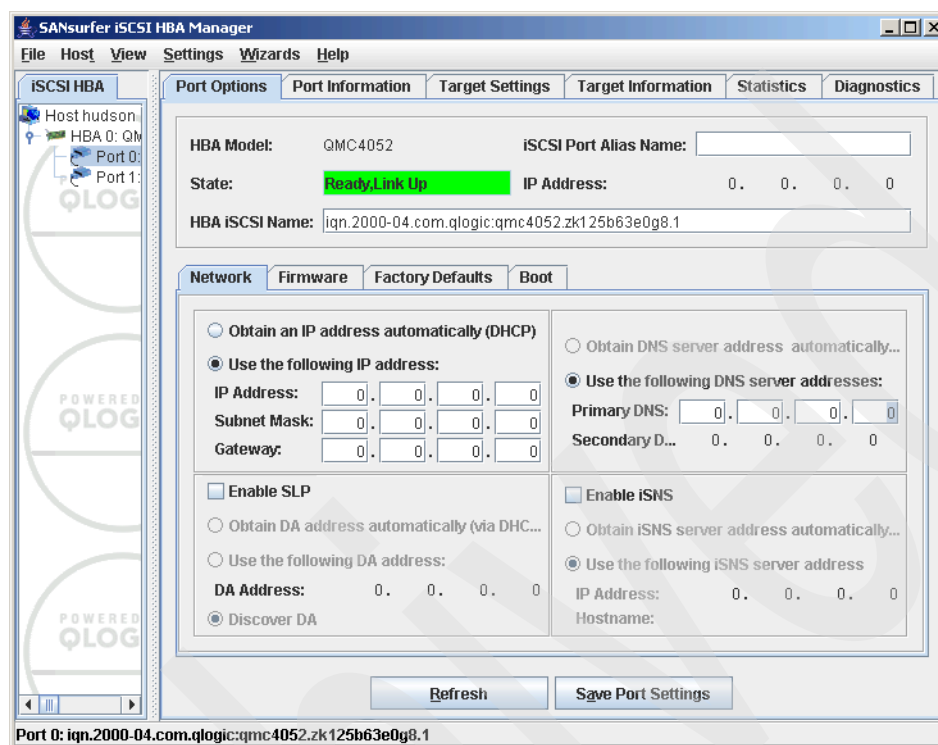
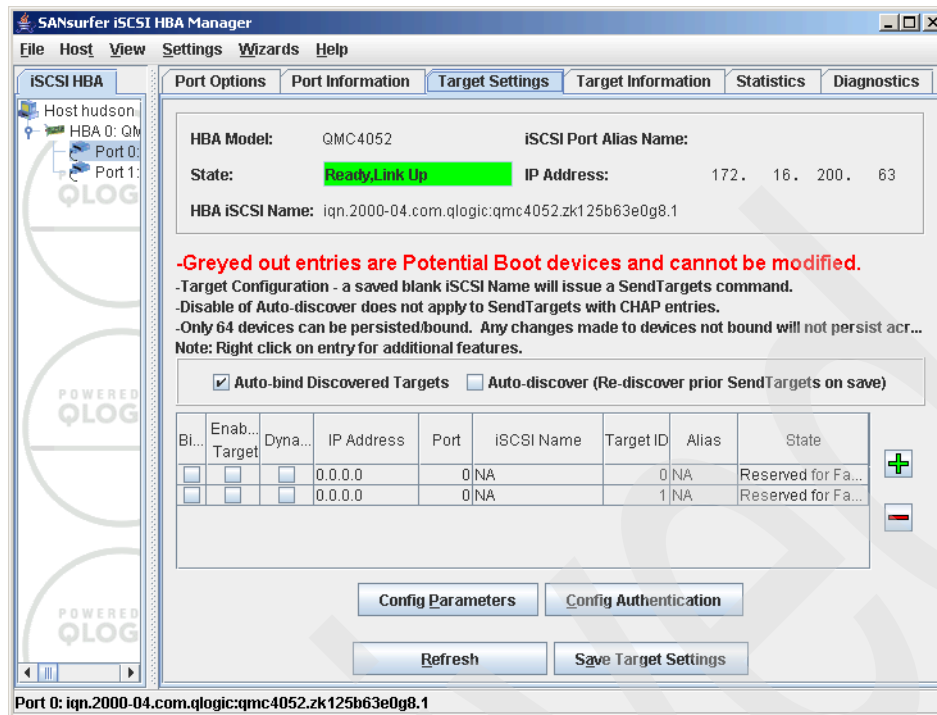

Figure 21-37 SANsurfer - Port Options - Network
Figure 21-46 SANsurfer - Target settings
1. Start SANsurfer, select HBA Port 0, click the **Port Options** tab, and then click **Network**. You should see a window similar to Figure 21-37.
1. Start SANsurfer, select the first port from the HBA, as shown in Figure 21-37 on page 504, and click **Target Settings**. A window similar to Figure 21-46 on page 511 will display, showing a list of all discovered targets.